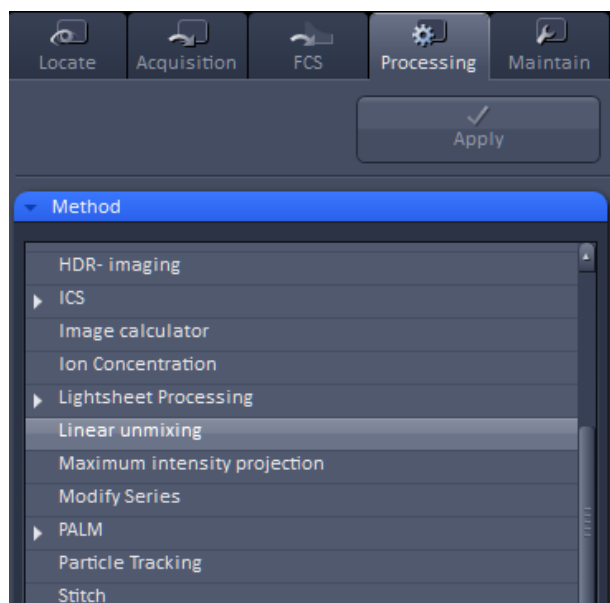

Fig. 271 Processing – Linear unmixing
- To open the **Linear unmixing** tool, click on **Linear unmixing** in the **Processing** tool list under the **Processing** tab (Fig. 271).